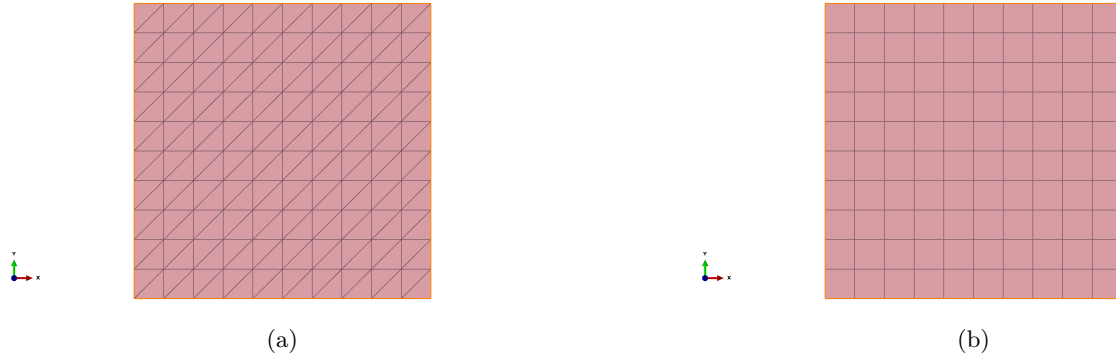

Fig. 2
- (a) Discretize the domain using 50, 200 and 5000 triangular elements, respectively (Hint: generate the meshes following the pattern shown in Fig. 2(a) and implement your algorithm in the Matlab function named `generate_mesh.m`).
(b) Discretize the domain using 25, 100 and 2500 quadrilateral elements, respectively (Hint: generate the mesh following the pattern shown in Fig. 2(b) and implement your algorithm in the Matlab function named `generate_mesh.m`).